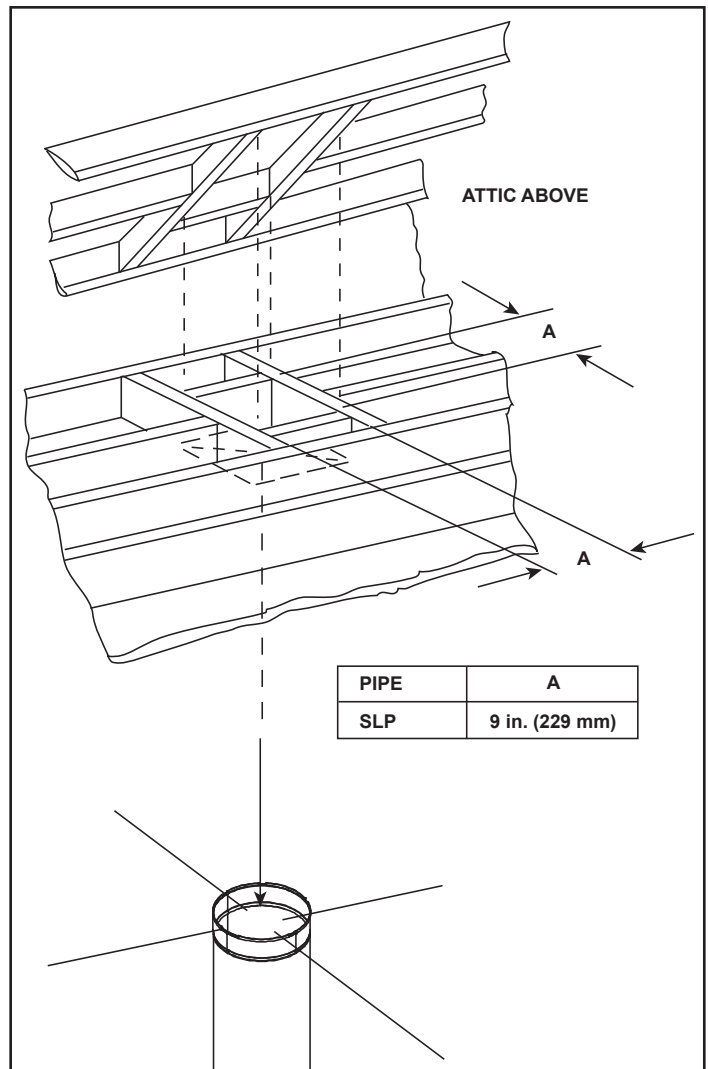

Figure 5.3 - Installing Ceiling Firestop
- **SLP Pipe** - Frame opening 9 in. x 9 in. (229 mm x 229 mm) whenever the vent penetrates a ceiling/floor (see Figure 5.3).